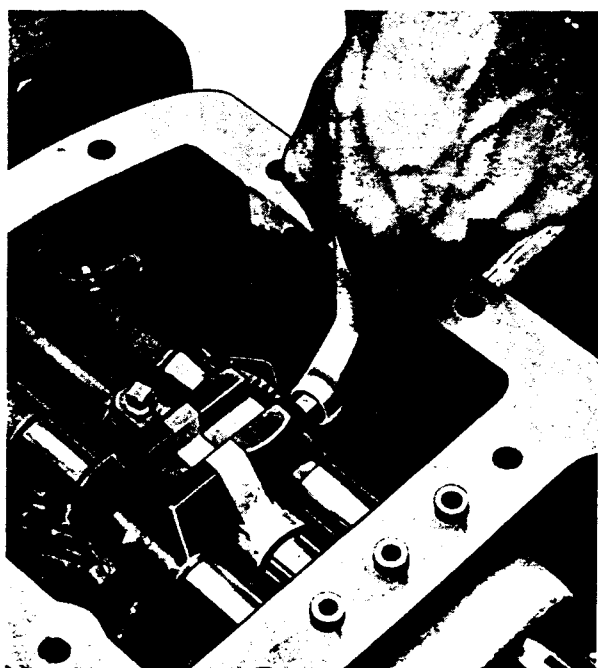

FIG. 5
3. Unscrew and remove pins (21). If square headed pins are fitted, Special Tool, FTB. 11 (Fig. 5), should be employed.